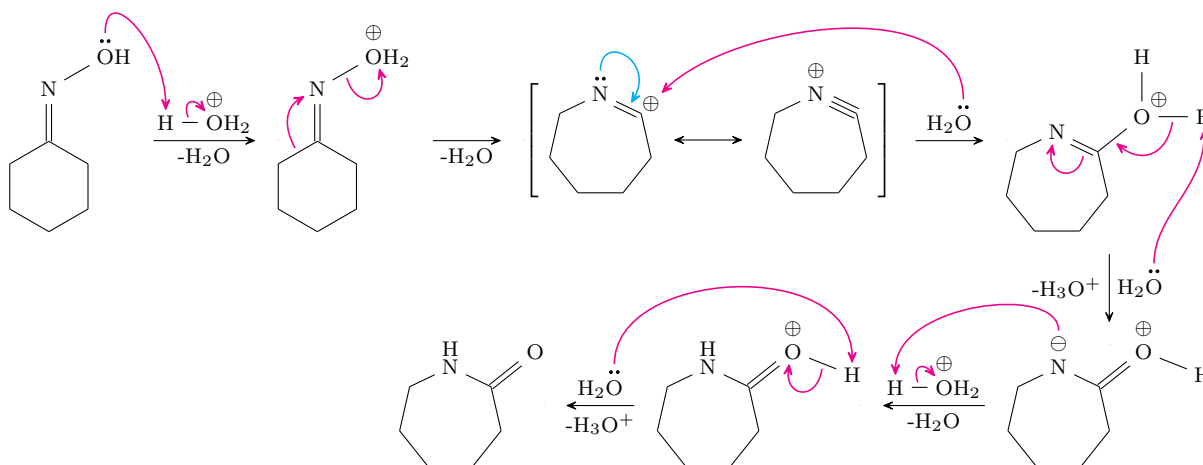

Figure 17.28: Beckmann rearrangement mechanism.
- Caprolactam (the end product in Figure 17.28) is made from cyclohexanone in quantities of millions of tons per year because it is a precursor to nylon, which is just caprolactam following a ring opening.